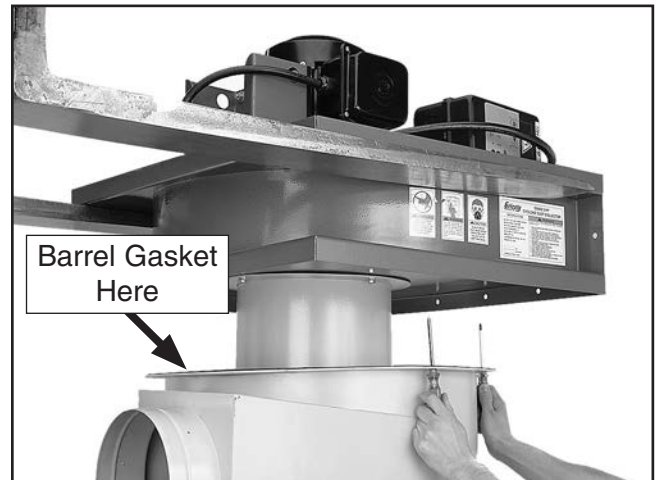

Figure 18. Aligning the mounting holes.
13. Using two punches or Phillips screwdrivers, align the mounting holes, as shown in **Figure 18**, and lower the assembly onto the intake barrel.